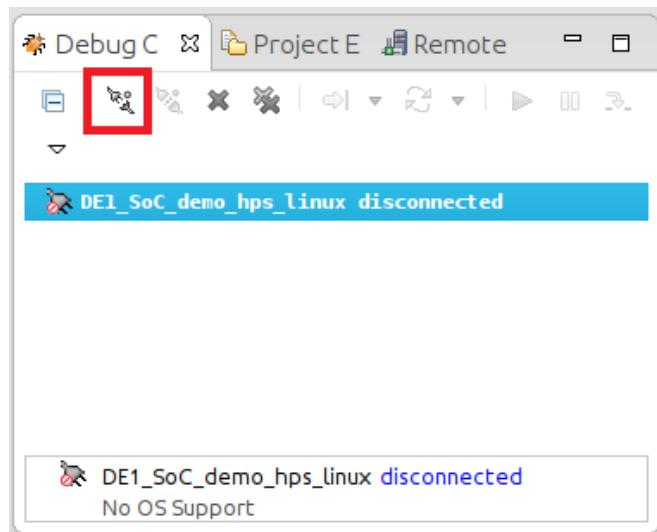

Figure 13-23. Debug Control View
23. In the “Debug Control” view, click on the “DE1_SoC_demo_hps_linux” entry, then click on the “Connect to Target” button, as shown on Figure 13-23. The debugger will start an SSH connection to the Linux distribution running on the DE1-SoC and will automatically transfer our binary file and wait at our application's “main()” function.